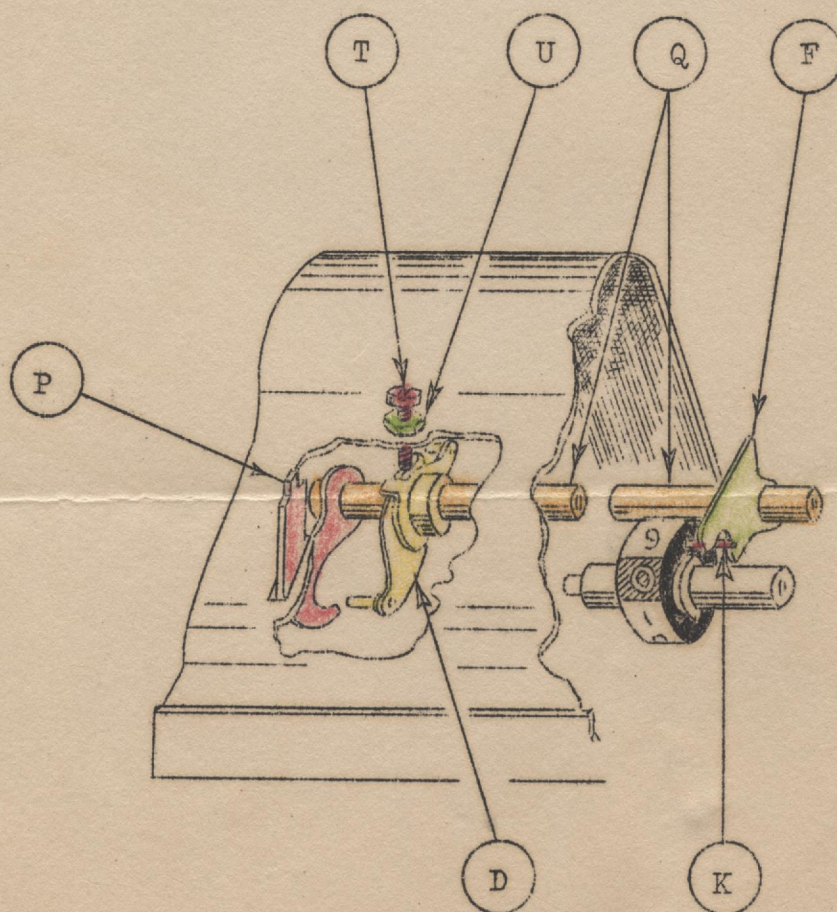

FIG. 3
- 4 - If the clear pin (K) seats too deeply in aperture (V) of finger (F), (see Figure 4,) it may cause dial (R) to function sluggishly, off-times resulting in half figures appearing in the carriage windows. To remedy this condition turn screw (T), Figure 3, Plate 3, downward until the finger (F) is positioned in relation to the clear pin (K), as shown in Figure 6. Do not turn screw (T), downward in excess of the movement required, as trouble will be encountered due to the clear pin (K) disengaging from finger (F) when (K) should be locked in aperture (V). See Figure 5.